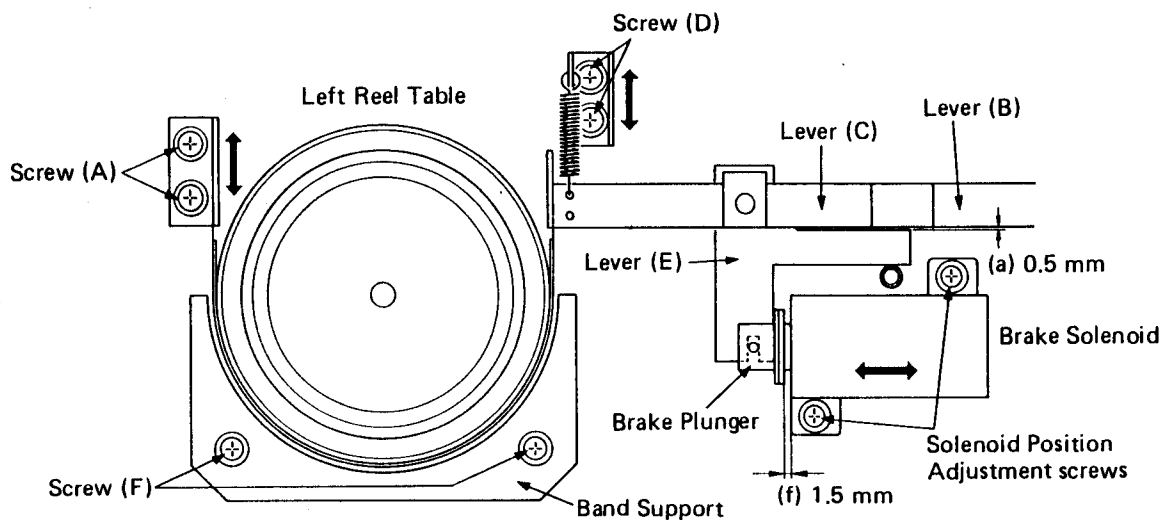

FIG. 10. BRAKE MECHANISM & TORQUE ADJUSTMENTS
1. Refer to Fig. 10 and adjust screw (A) so clearance (a) is 0.5 mm.
3. Adjust screw (A) of the right brake assembly (not shown in the figure) so lever (B) is parallel to lever (C).
3. If forward brake torque is not within specifications, adjust the spring hanger hooking position by loosening screw (D) shown in Fig. 10. If this adjustment has no effect, perform the following: